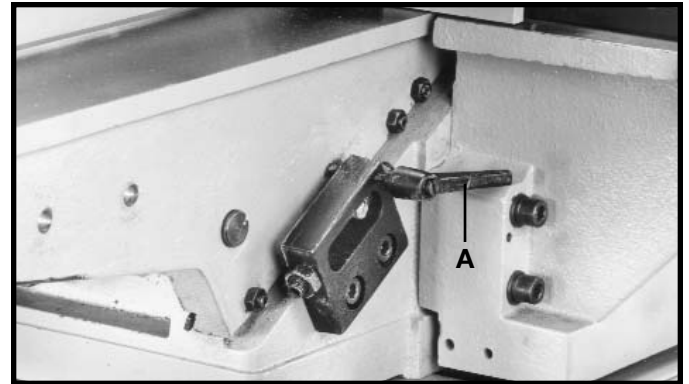

Fig. 34
1. To raise or lower the infeed table, loosen table lock handle (A) Fig. 34, located on the rear side of infeed table.
CAUTION Always make sure table lock handle (A) Fig. 34, is tightened before operation. The table lock handle (A) is spring-loaded and can be repositioned by pulling out the handle and repositioning it on the serrated nut located under the handle.